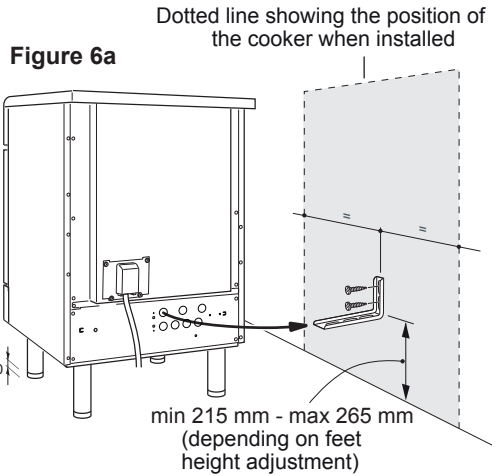

Figure 6b
- Remove the drawer (fig. 6b).